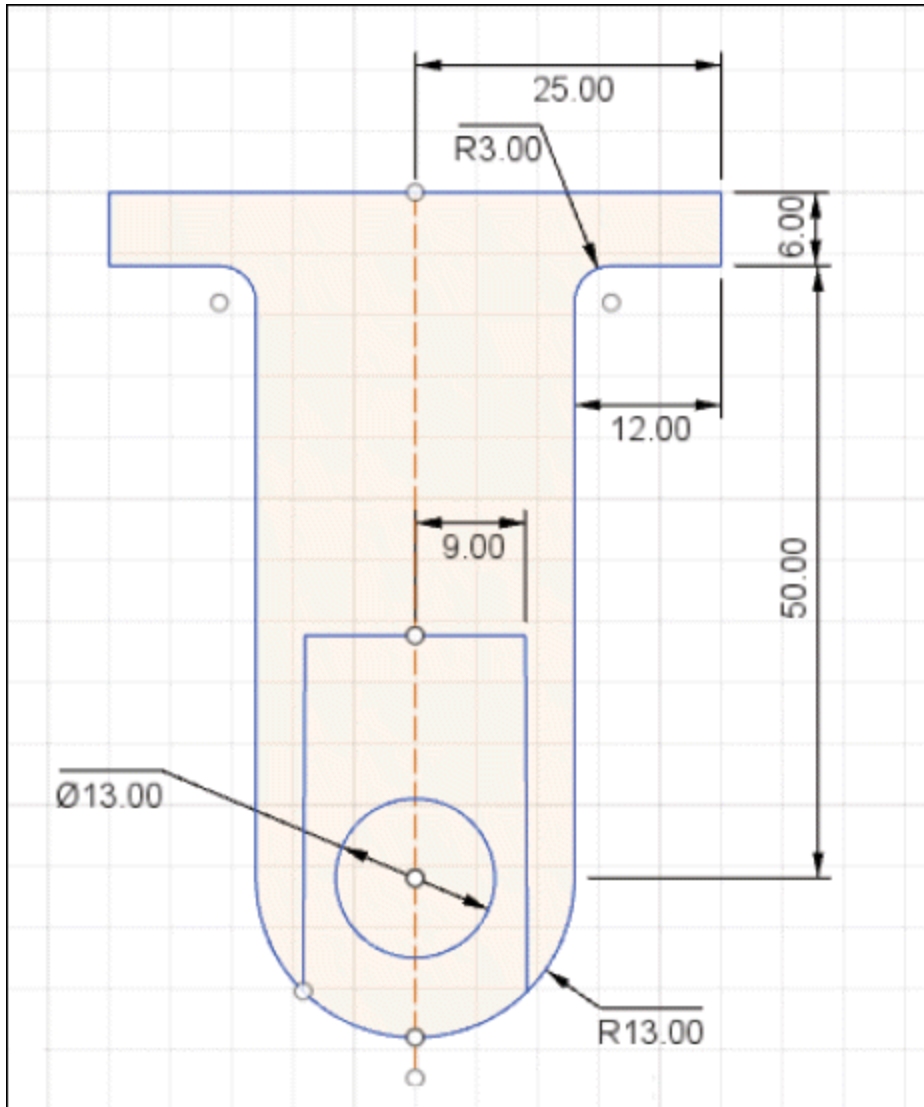

Figure-119. Sketch after all sketching operation
- Mirror both the lines as we did earlier. The sketch should display as shown in Figure-119.